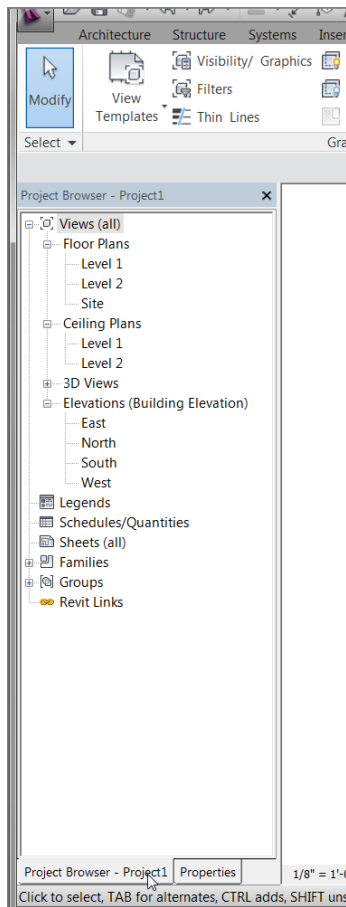

FIGURE 1.44: The Project Browser is your new BIM Windows Explorer.
1. To the far left of the Revit interface are the combined Project Browser and Properties dialogs. At the bottom of the dialogs, you'll see two tabs as shown in Figure 1.44. Click the Project Browser tab.